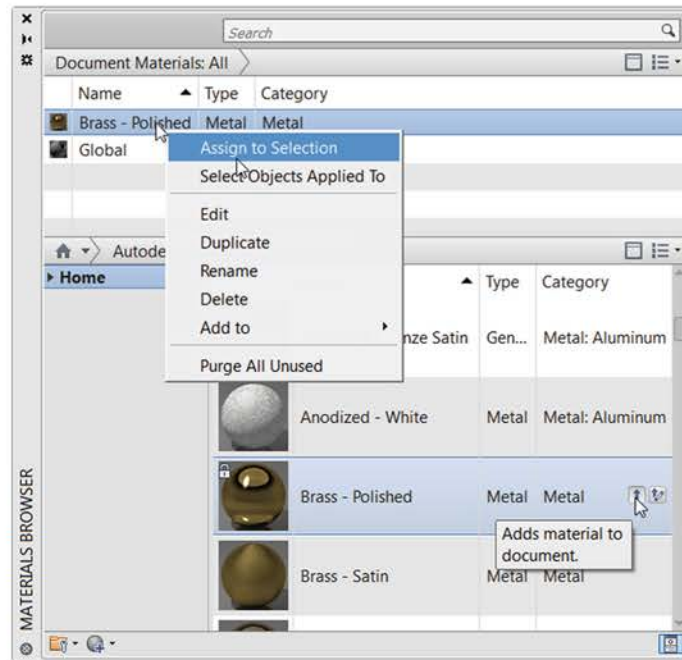

Fig. 16.26 The Material Browser
FIRST EXAMPLE – RENDERING (FIG. 16.26)
1. Open the **Materials Browser** palette, with a *click* on the **Materials Browser** icon in the **Visualize/Materials** panel. From the **Autodesk Library**, select **Metals**. When the icons for the metals appear in the right-hand column of the palette, use the upwards arrow on the right-hand side of the **Brass Polished** material to add the material to the drawing. The icon appears in the **Materials in this document** area of the palette (Fig. 16.26).
4. Render the model (Fig. 16.26) using the **Render to Size** tool from the **Visualize/Render** panel and if now satisfied save the render image from the render window to a suitable file name. Render panel and if now satisfied save to a suitable file name.